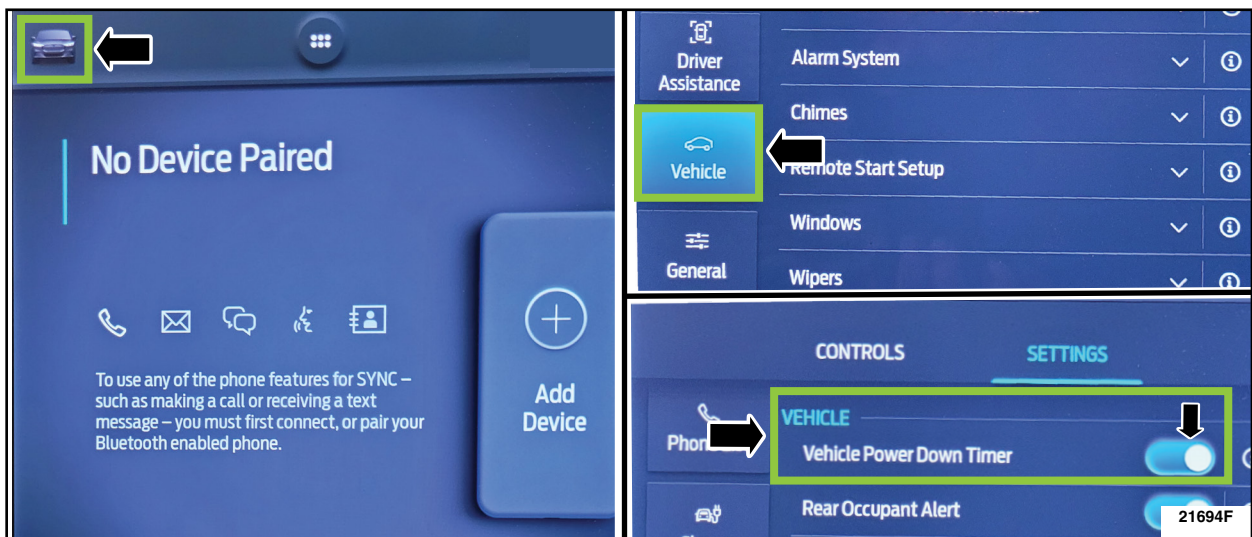

FIGURE 2
- For Mach-E vehicles, from the center stack press the vehicle icon in the upper left corner > select the vehicle setting tab > and turn off the vehicle power down setting. See Figure 2.